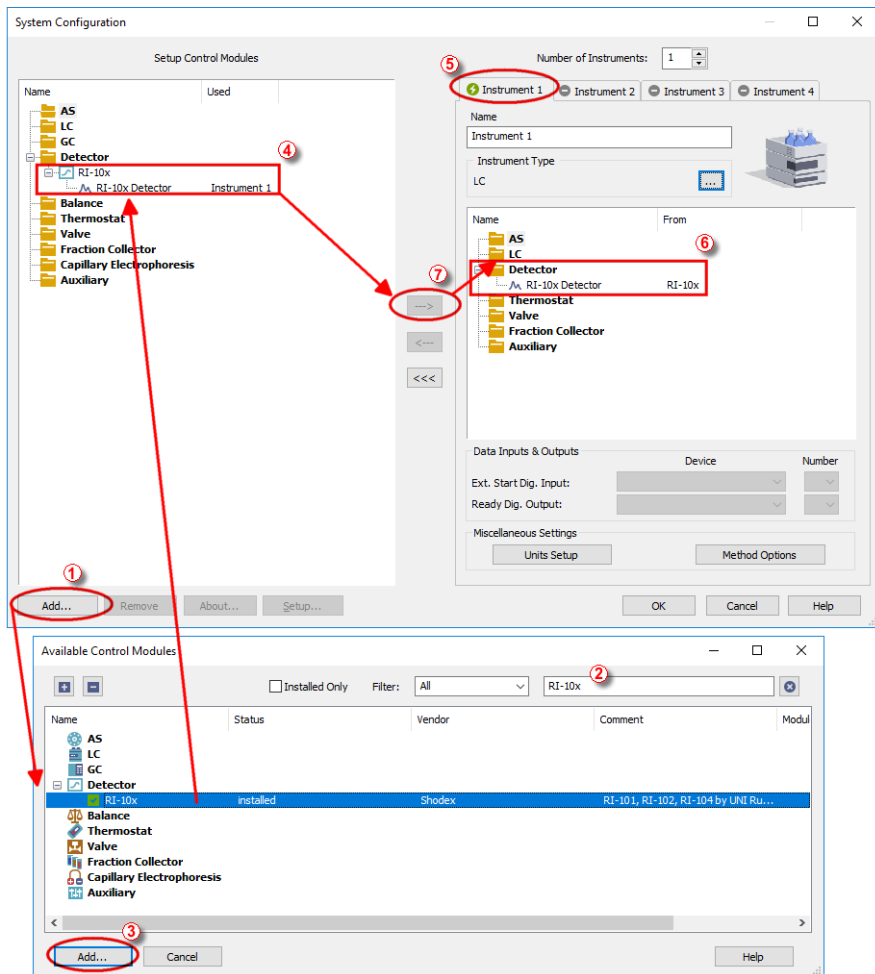

Fig 3: How to Add Shodex RI-101 module
- Press the *Add* button (1 on Fig 3 on pg 4.) to invoke the **Available Control Modules** dialog.
- You can specify the search filter (2) to simplify the finding of the driver.
- Select the correct item and press the **Add** (③ on **Fig 3** on pg 4.) button. Each device with already created UNI profile should have its own item named accordingly in the **Available Control Modules** dialog.